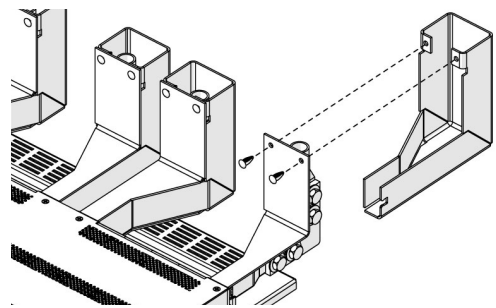

Figure 12. 90 Degree Isolators
**Step 1.** Place the bottom portion of the isolator on the bottom of the input bus assembly and align with the top portion of the isolator as shown in Figure 12.